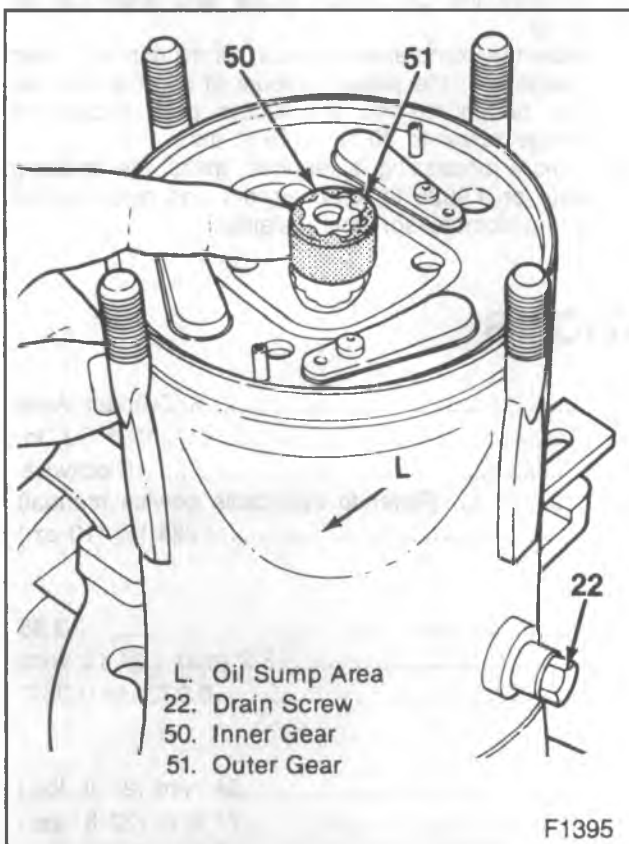

Figure 50—Position The Oil Pump Gears
20. Rear suction reed (48) over the dowel pins (45).
21. Rear discharge valve plate (49) over the dowel pins (45).
22. Inner oil pump gear (50) over the shaft (39).
23. Outer oil pump gear (51) over the inner gear (figure 50).
- Face the compressor oil sump and position the outer gear (51) so that it meshes with the inner gear (50) at the 9 o'clock position. The cavity between the gear teeth will be at the 3 o'clock position.
24. Seal (52) to the discharge valve plate (49).
- Lubricate the seal (52), shell (9), discharge plate (49) and gears (50 and 51) with 525 viscosity refrigerant oil.
25. Suction screen (58) to the rear head (54).
- Lubricate the surface of the rear head (54) with 525 viscosity refrigerant oil.